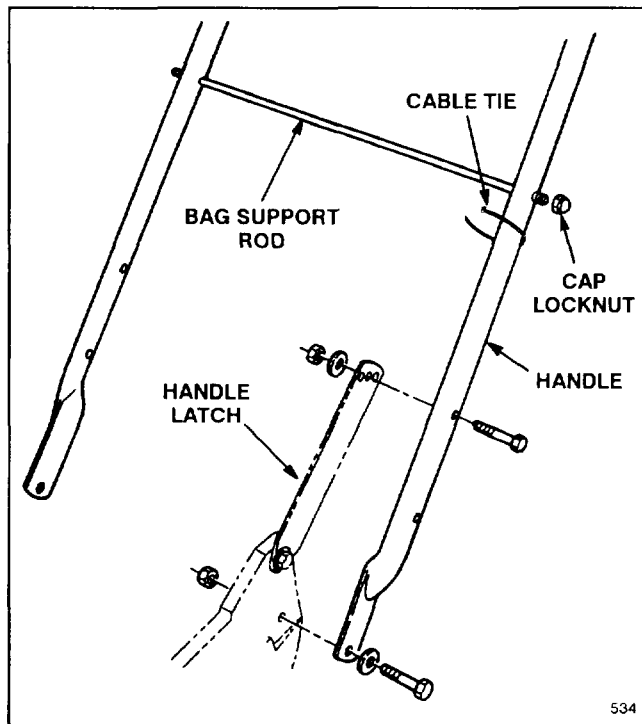

Figure 1
INSTALL HANDLE (Fig. 1)
4. Use a cable tie to secure the control cables to left handle below the bag support rod (Fig. 1).